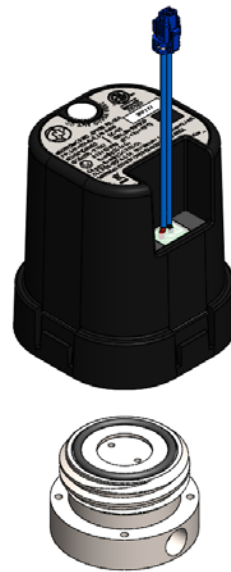

Figure 5, Sensor removal
2. Remove the existing sensor by turning it in a counterclockwise rotation. Discard the existing sensor refer to Figure 5 to prevent accidental reuse.